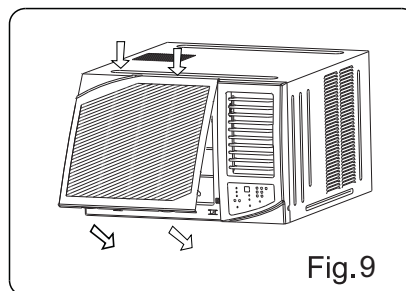

Fig.9
2. Hang the front panel on the frame's buckle, then press the front panel into the frame's slot until you hear a click (See Fig9).